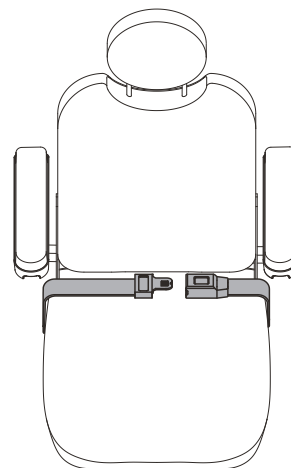

Figure 19. Positioning Belt Adjustment
Your power chair may be equipped with a positioning belt that can be adjusted for operator comfort. **See figure 19.** The positioning belt is designed to support the operator so that he/she does not slide down or forward in the seat. The positioning belt is not designed for use as a restraining device.
1. Once seated, insert the metal tab on one side of the belt into the plastic housing on the opposite side until you hear a click. **See figure 19.**